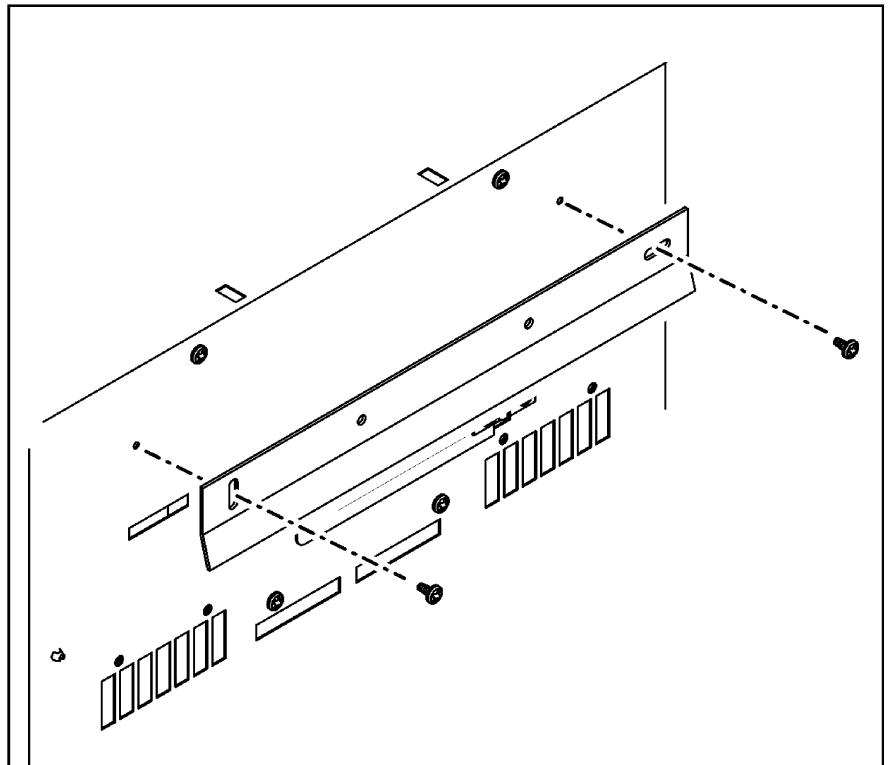

Figure 13
2. The Elevated Installation kit contains two wall mounting brackets and one lower bracket. Secure one of the wall mounting brackets to the rear of the heater using two of the No.8 x 3/8 screws supplied. Ensure that the bracket is correctly orientated before securing (See figure 13).